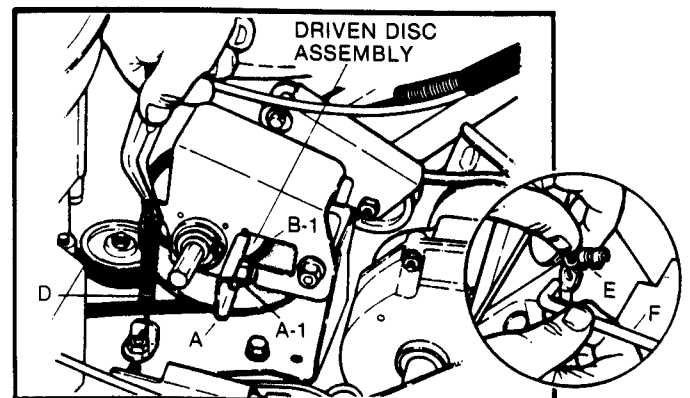

FIG. 14 - DRIVEN DISC ASSEMBLY
- Grease on drive disc (C)-causing slippage.
- Broken or disconnected DRIVE SPRING (D) (also refer to FIG. 14).
- Driven disc rubber ring (B-1) worn - not contacting drive disc (C) properly.
- Driven disc (B) out of adjustment
**DRIVEN DISC REPLACEMENT:** If the driven disc rubber ring (B-1) is found to be badly chunked or worn down to within 1/16" of the metal rim of the driven disc hub (B), it must be replaced. Remove the clip (E) at end of speed control rod, and then turn the transfer rod (F) to a upright (vertical) position and detach from the connector (A) (FIG. 14 & 15). Unhook drive spring (D) (use needle nose pliers) and slide the driven disc assembly off hex-shaft.